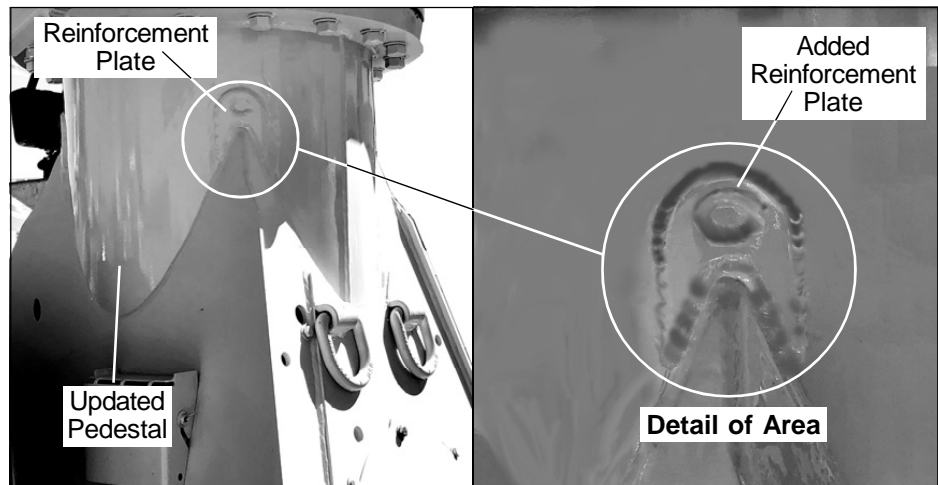

Figure 3— Inspection For Update Kit
2. Verify that the pedestal does not have the update kit already installed. Look for the reinforcement plates in the four corner gusset areas of the pedestal (refer to Figure 3).